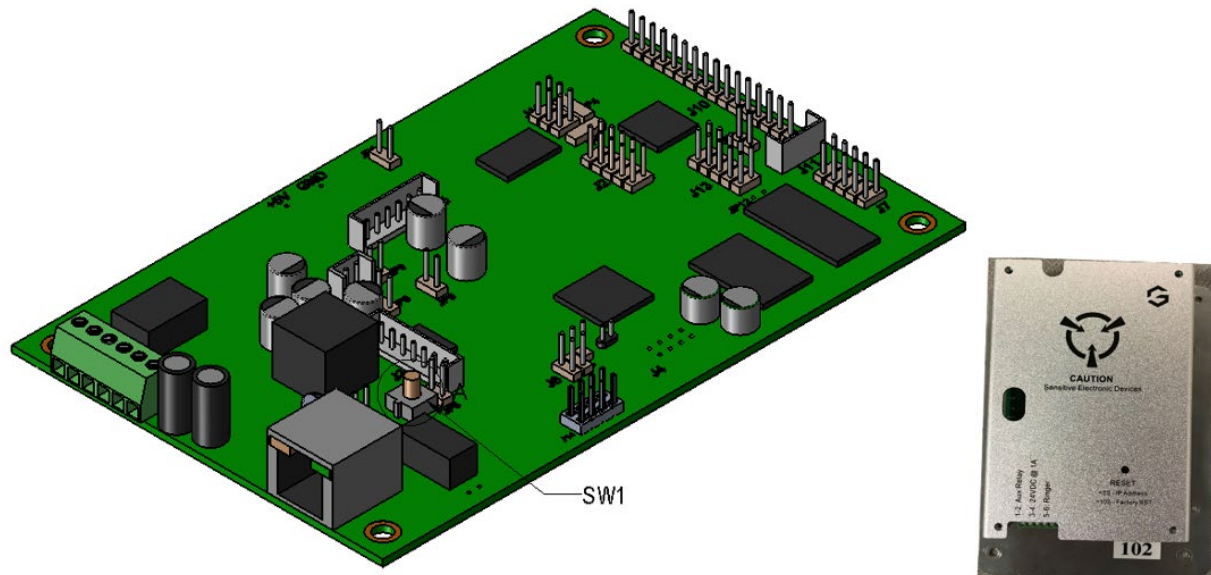

Figure 10 - RESET Switch
- The square, green **Link** light above the Ethernet port indicates that the network connection has been established (see Figure 10). The Link light changes color to confirm the auto-negotiated baud rate: